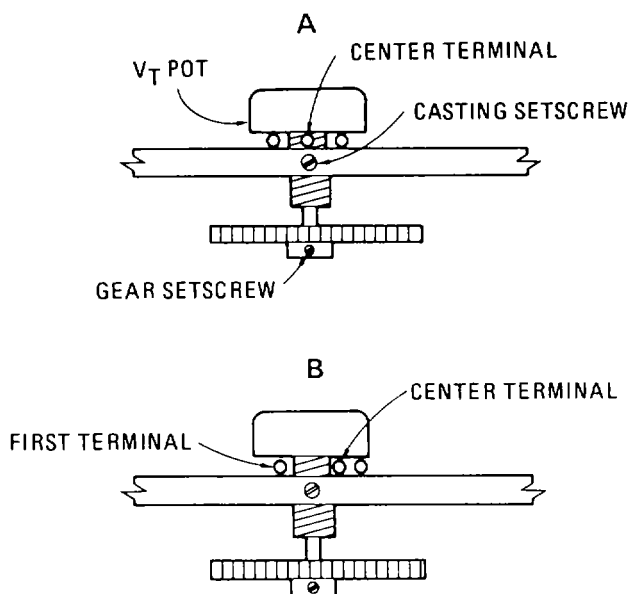

Figure 5-3. V_T Pot Adjustment
- 3. Install pot with gear in casting so that center terminal (934 wire) is in line with casting setscrew (see Figure 5-3,A).
- 5. Rotate the pot cw so that casting setscrew lies between first and center terminals of pot (see Figure 5-3,B).